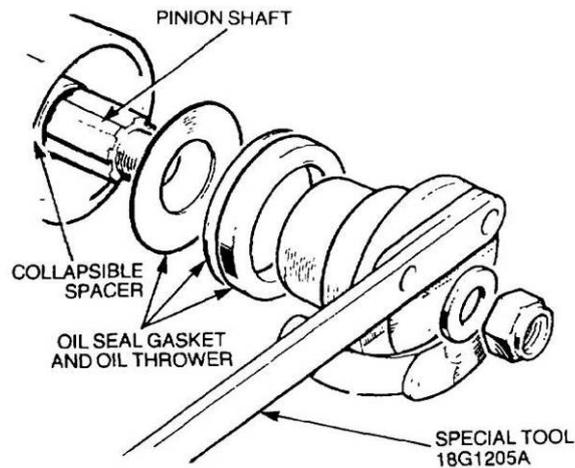

Figure 228 Removal of the Pinion Flange and Shaft
- k. Using special tool 18G1205A to prevent the pinion flange from rotating, remove the locknut and flat washer (Figure 228). Using a soft hammer, tap the pinion shaft through the pinion flange. Remove the flange, then the pinion shaft assembly.